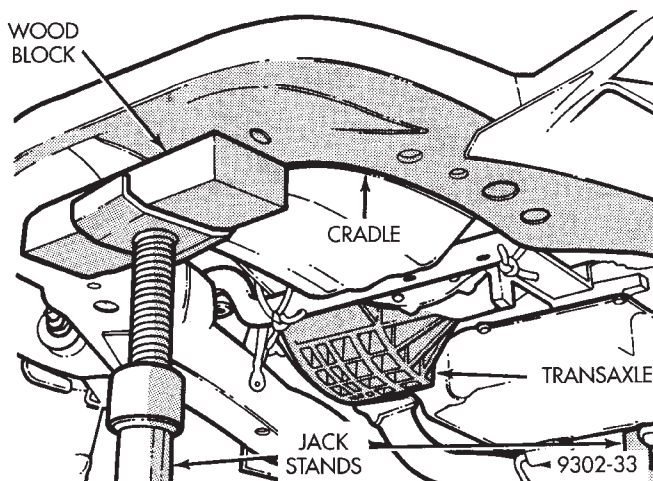

Fig. 16 Jack Stands Supporting Cradle And Transaxle
(9) Position a jack stand under front of cradle and at center of transaxle to cradle assembly mount (Fig. 16). Raise jack stand at transaxle mount until transaxle mount just lifts off cradle assembly.